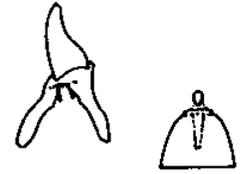

Fig. 6
9. Recover, finish, and polish the denture. Remove the block-out material and spacer wire and adjust the retention of the channel as desired (Fig. 6).